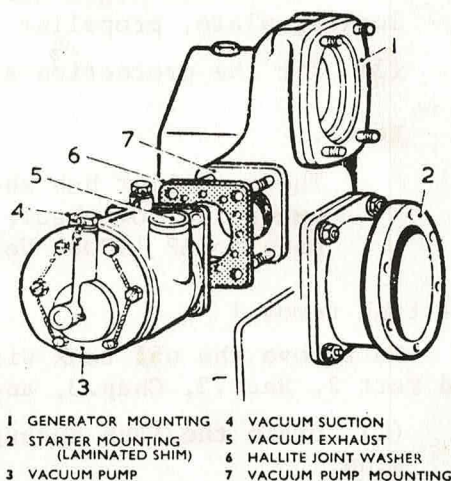

Fig.1. Accessory mounting faces
4. The location of the accessory mounting faces are shown in fig.1 which, as far as the removal operations are concerned, is self explanatory. It should be noted, however, that the laminated shim between the starter and the engine, and the Hallite joint washer under the vacuum pump flange, should remain with the engine after removal of the relevant units.